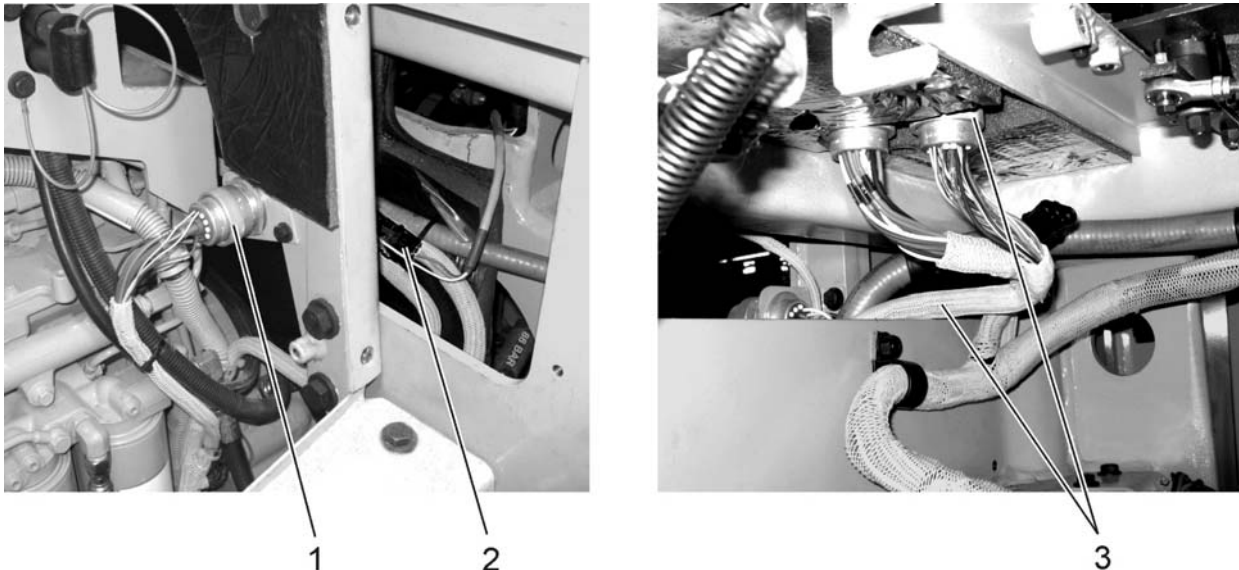
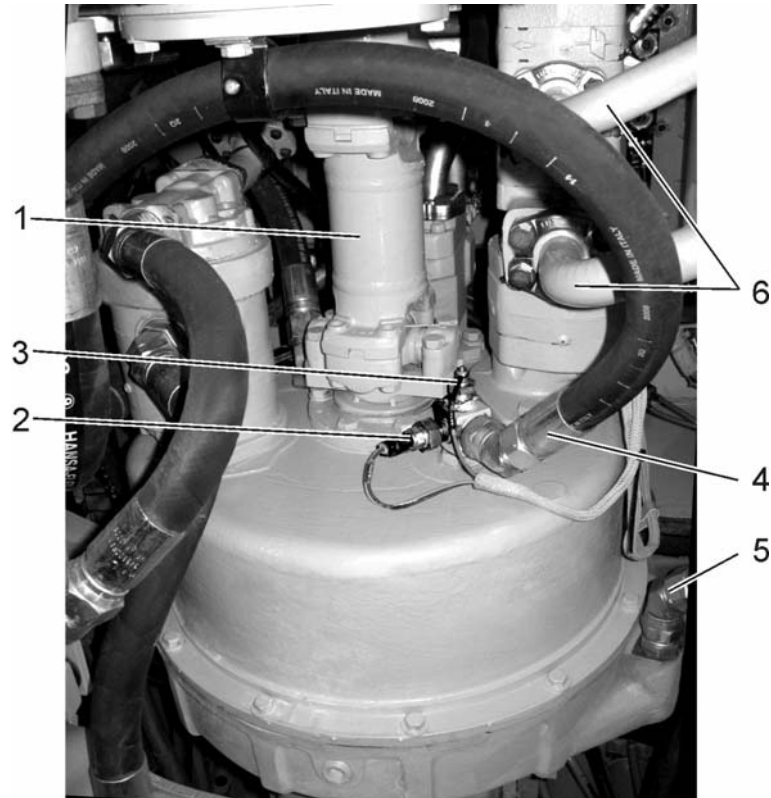
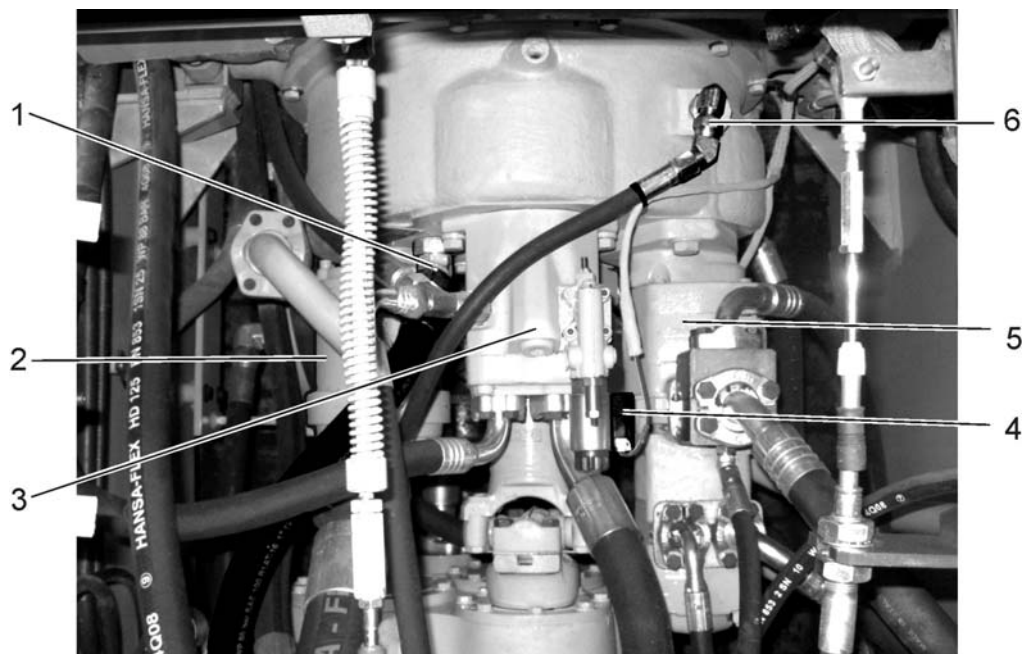

Fig. 12.7. OEM Wire Harness Disconnecting Points (LH side)
Fig. 12.8. Torque Converter Disconnecting Points (bottom view)
Fig. 12.9. Torque Converter Disconnecting Points (top view)
11. Remove plate on the fender. Disconnect the engine control potentiometer wire harness connector (2, Fig. 12.7).
15. Disconnect wires from the temperature sensors (2 and 3, Fig. 12.8).
16. Remove torque converter outlet hose (4).
17. Remove torque converter drain hose (5) from the flywheel housing.
18. Remove bolts securing drive shaft (1) to the torque converter output flange. Secure the disconnected shaft with wire.
19. Drain the oil from the hydraulic oil reservoir. Refer to Operator's Manual. Remove flange splits securing tubes (6) to the hydraulic system pump.
20. Remove torque converter vent hose (6, Fig. 12.9).
21. Disconnect the fan drive system pump solenoid wire harness plug (4).
22. Remove bolts and separate fan drive system pump (3) from the torque converter, wire the pump.
23. Remove bolts and separate hydraulic system pump (5) from the torque converter, wire the pump.
4. Use a new gasket and reinstall drive train system pump (2, Fig. 12.9) to the torque converter with the bolts.
5. Reinstall torque converter inlet hose (1).
6. Use a new gasket and reinstall hydraulic system pump (5) to the torque converter with the bolts.
7. Use a new gasket and reinstall fan drive system pump (3) to the torque converter with the bolts.
8. Reconnect the wire harness plug (4) to the fan drive system pump solenoid.
9. Reinstall torque converter vent hose (6).
10. Reinstall tubes (6, Fig. 12.8) to the hydraulic system pump with flange splits.
11. Reinstall drive shaft (1) to the torque converter output flange with the bolts.
12. Reinstall torque converter drain hose (5) to the flywheel housing.
13. Reinstall torque converter outlet hose (4).
15. Reconnect the harness connectors (1 and 3, Fig. 12.7). Secure harness with the clip.
16. Reconnect the engine control potentiometer wire harness connector (2). Install the plate on the fender.